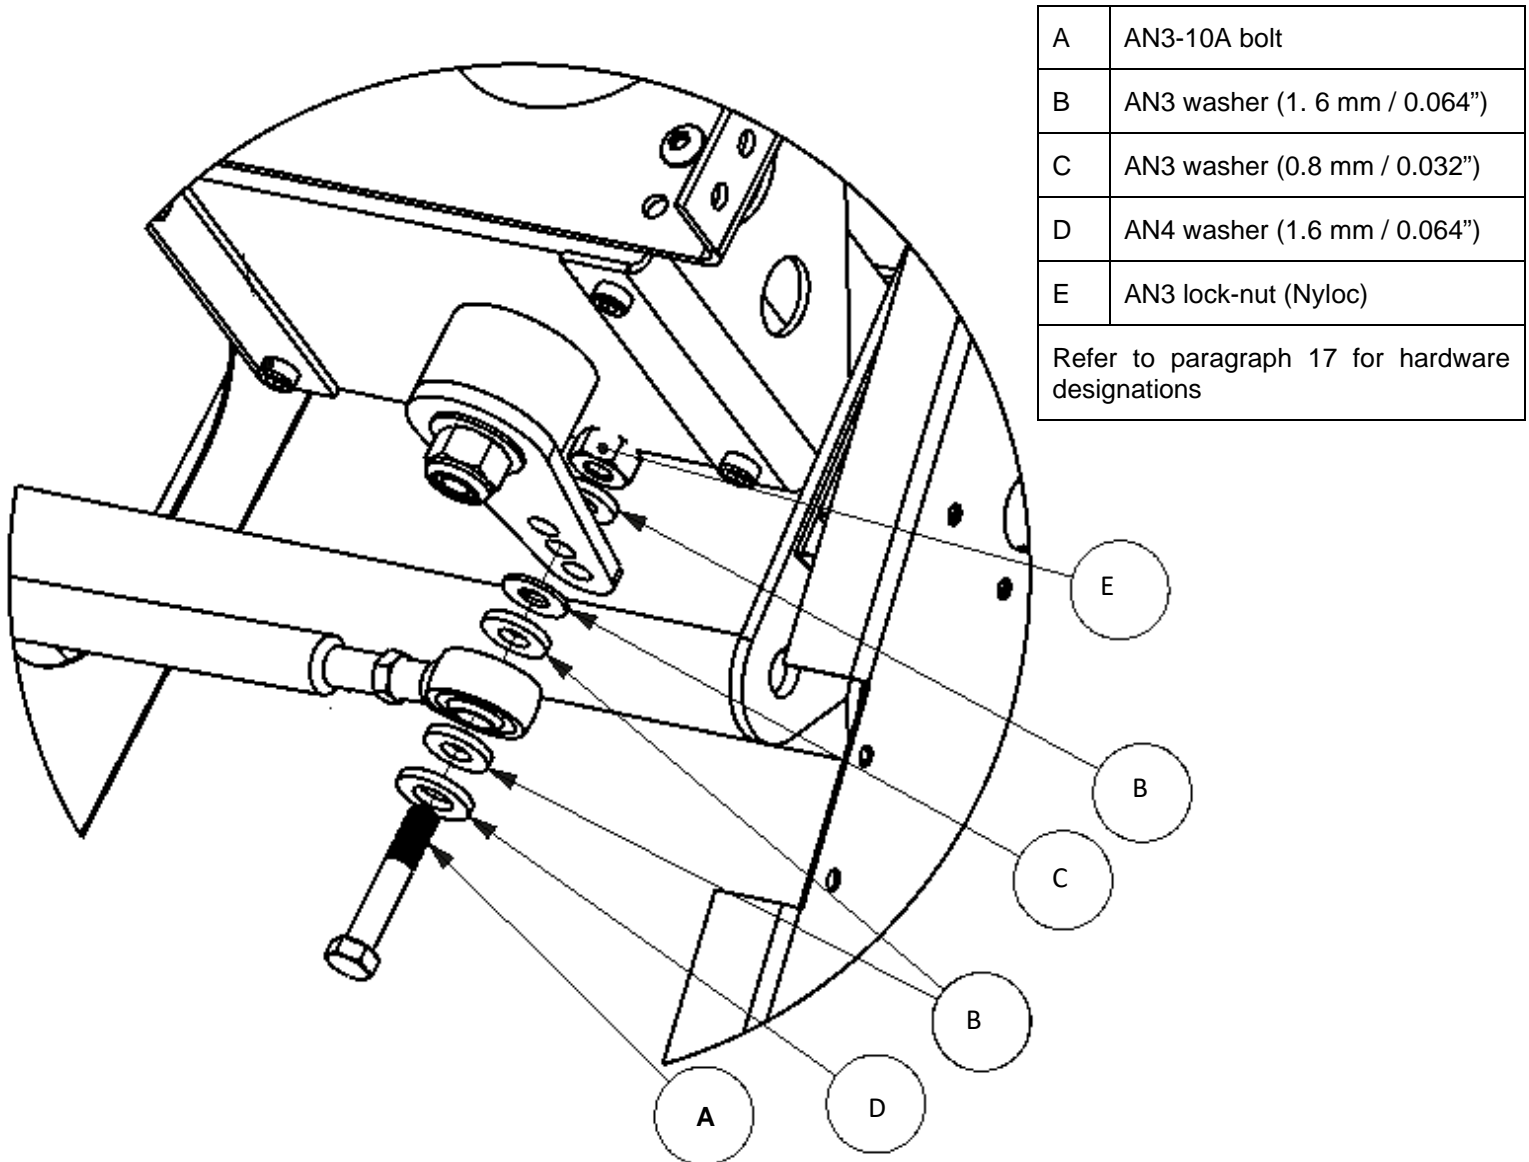

Figure 14: Autopilot aileron servo installation.
- Observe the correct placement of washers (refer to Figure 14).